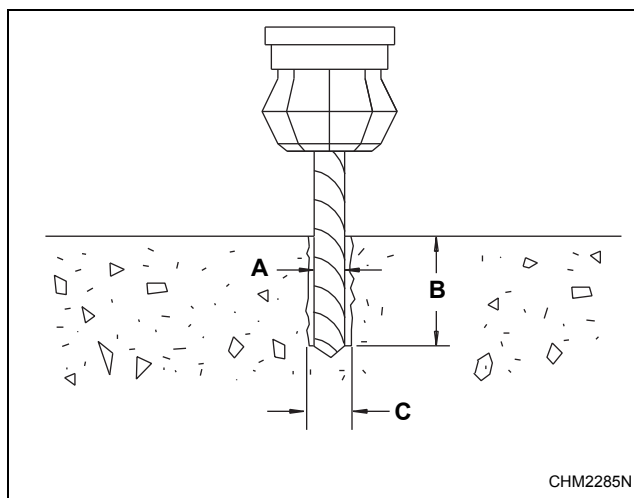

Figure 9
4. Refer to *Figure 9* and *Table 4* to set the drill depth gauge.
3. Refer to *Figure 9* and *Table 4* to set the drill depth gauge.